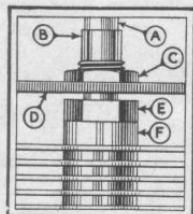

Figure 4.
The end play of the shaft is adjusted at one end (see Fig. 4) by a broad hexagonal-headed brass bushing locked to end-plate (D) by lock nut (E). A steel spacer (F) rests against the hexagonal bushing (E) and thus two dissimilar metals afford a fine bearing which is not subject to wear or play.
The shaft bushing (Fig. 4:E) has a projecting split collar (B) which gives a firm even pressure against the shaft (A), thereby insuring a good contact from rotor to shaft, but also avoiding any tendency of the rotor to turn due to its weight.